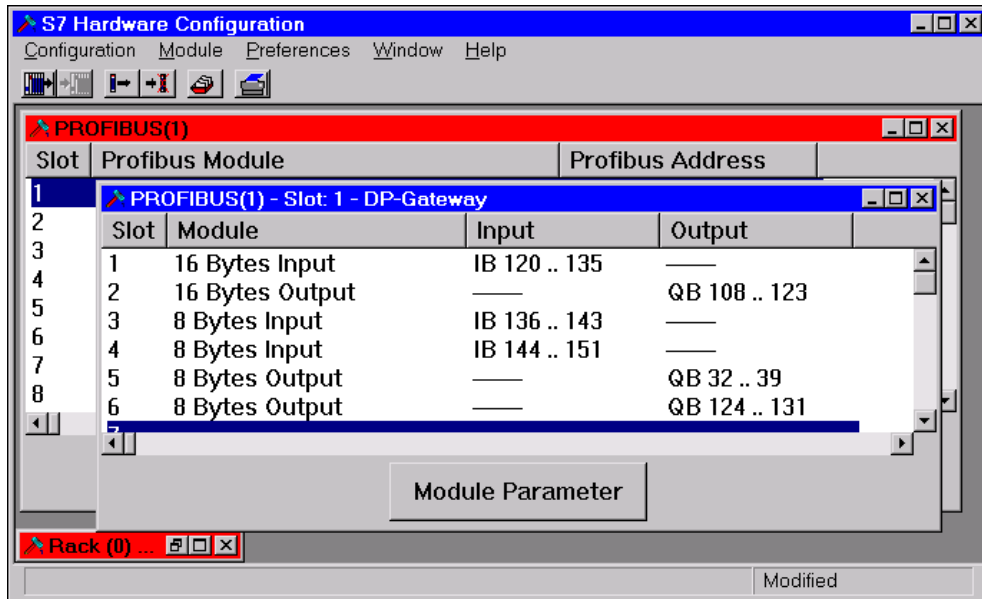

Figure 13-36 I/O modules entered in the DB-Gateway base module
23. The button **Module Parameter** (see figure 13-36) opens a dialog box listing the parameter.